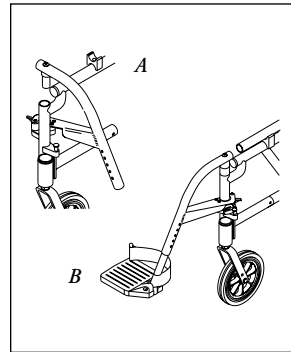

Figure 5
1. Installation (Fig. 5)
- Place swing-away pivot saddle into the receiver on front frame tube with the footrest facing outward from the frame. (Fig. 5-A)
- Rotate the footrest inward until it locks into place on locking bolt. (Fig. 5-B)